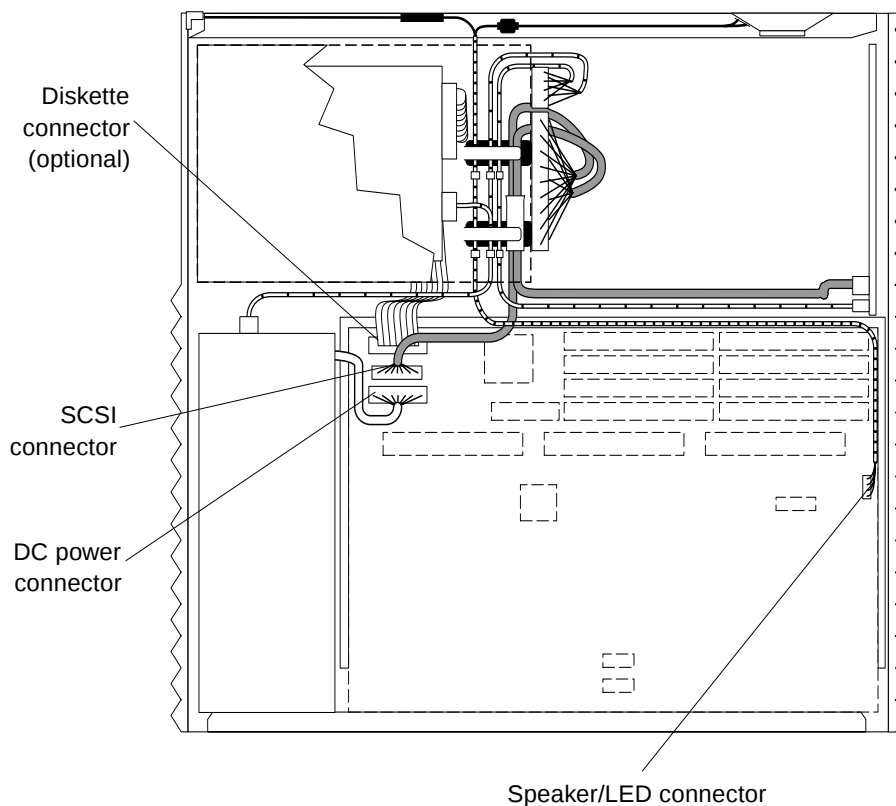

FIGURE 11-36 Disconnecting Diskette, SCSI, DC Power, and Speaker /LED Connectors
4. Disconnect the following from the system board (FIGURE 11-36):